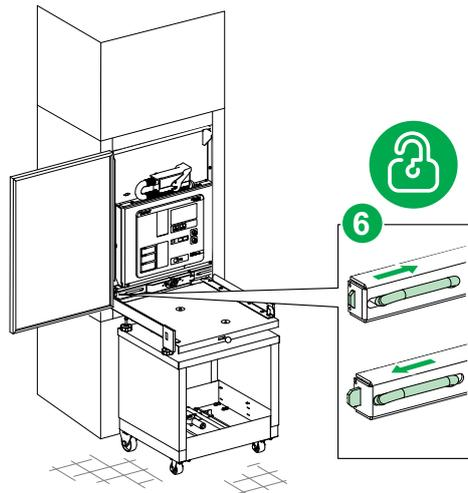

Figure 77
NOTE: Latch the locking handles of the VCB truck away from each other to latch VCB with the transport trolley. Refer to the Figure 77.
8. Firmly hold the transport trolley and push the knob of the transport trolley to the left-hand side of the interlock to open and remove the transport trolley from the cubicle. Refer to Figure 77 in Insertion of the EvoPacT HVX VCB into the Cubicle, page 82.